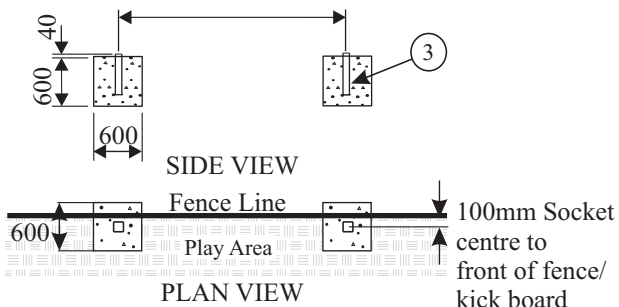

Fig.2b
**1** Dig holes 600x600 square x 600mm deep at centres shown in Fig 2b. Position the sockets (3) 100mm centrally forward from the front (court side) of the fence/kick board. Concrete the sockets in leaving approx 40mm from top of concrete to ground level (for turf). Use a spirit level to make sure that the sockets are truly vertical and support until set. Replace the turf extracted when the concrete has cured (allow the concrete to set before assembling the rest of the goal).